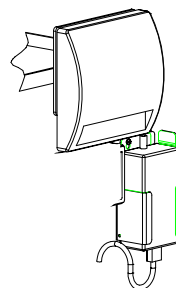

FIGURE 5
6. Slide the Octanet into the Channel. (Fig. 5)